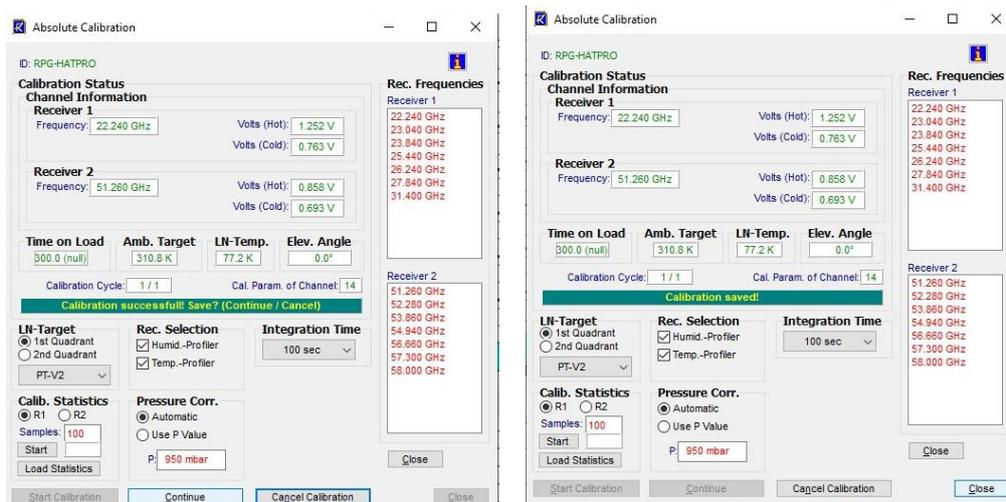

Figure 10: Calibration successful - click "Continue". Message "Calibration saved!" will appear.
- Click on “Continue” when status message says “Calibration successful! Save? (Continue/Cancel)”, see Figure 10. If you fail to do so, the calibration will not be saved!